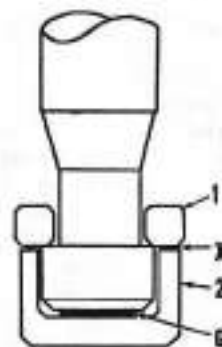

Fig. 35 — Feeler gauge method of checking rotor cap clearance between cap and end of stem; refer to text. Use of special micrometer gage is preferred.
Fit a disc made from 0.010 thick shim stock between cap and end of valve stem as shown in Fig. 35. Place the spring retainer collets (keepers) in groove of valve stem and measure the gap (X) between collets and cap with feeler gage while pressing down on collets. Subtract measured gap (X) from shim (G) thickness to obtain clearance. If less than 0.001, grind end of valve stem squarely to obtain desired 0.001-0.003 clearance. Lapping open end of cap will reduce the clearance.